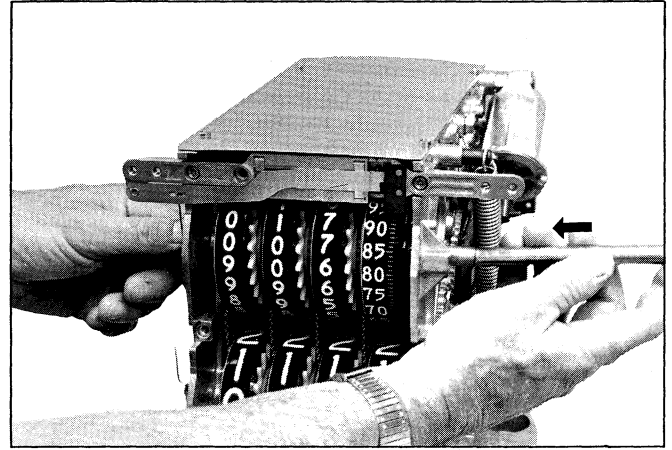

Figure 20. Inserting short dummy shaft into open end of long dummy shaft.
- e. Insert the short dummy shaft into the **open slotted end** of the long dummy shaft and push the long dummy shaft out, Figure 20.